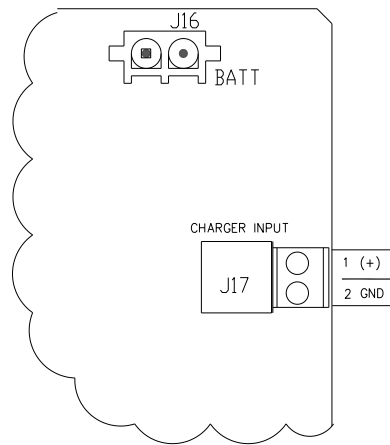

Figure 77: Battery charger and battery pack connections
2. Check the battery pack cable. It must make a good secure electrical connection with the main electronic board BATT CONN connector J16 (see Figure 77).
1. Check the battery pack cable. It must make a good secure electrical connection with the main electronic board BATT CONN connector J16 (see Figure 77).